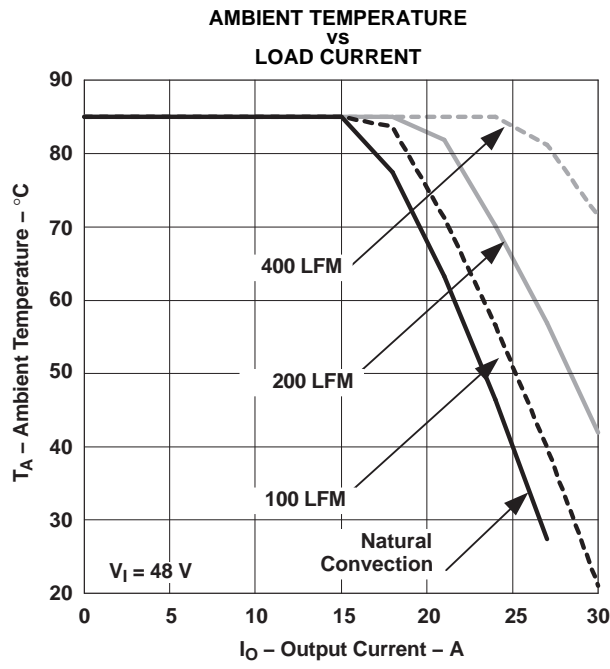

Figure 8.
- (2) The temperature derating curves represent operating conditions at which internal components are at or below manufacturer's maximum rated operating temperature. Derating limits apply to modules soldered directly to a 100-mm x 100-mm, double-sided PCB with 2 oz. copper. For surface mount packages, multiple vias (plated through holes) are required to add thermal paths around the power pins. Please refer to the mechanical specification for more information. Applies to Figure 8.
**PTQA420050,  $V_O = 5.0\text{ V}$  (1) (2)**